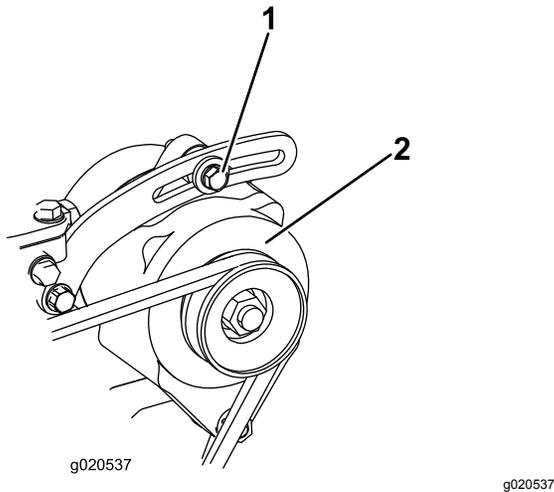

Figure 89
1. If the deflection is not 10 mm (3/8 inch), loosen the alternator mounting bolts (Figure 89).